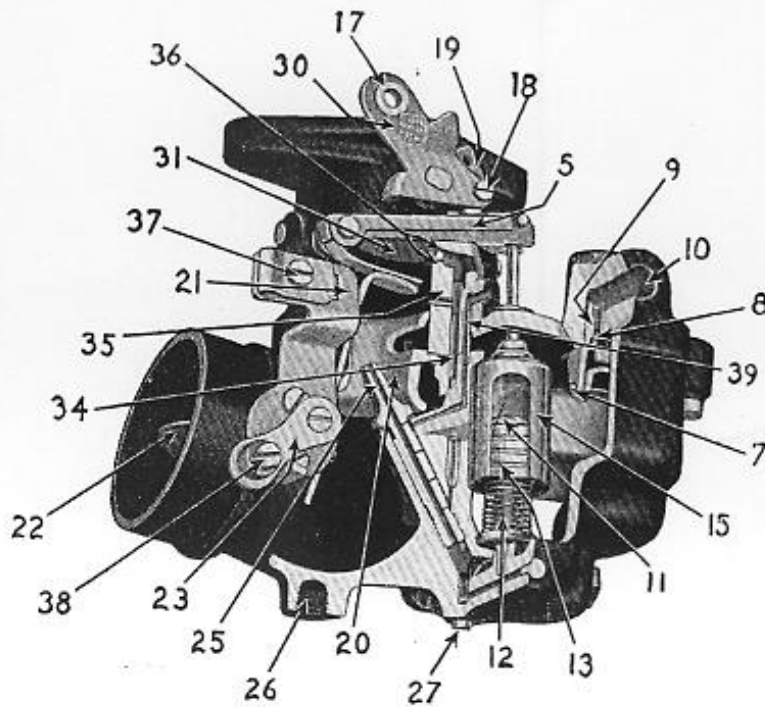

Fig. 1.
Operation of this carburetor is explained under Figures 1 to 4.
The economizer is a gasoline economizer and not an "air bled" economizer as used in previous model Stromberg carburetors. At part throttle, or speeds up to 45 or 50 miles per hour, all fuel is controlled by the main metering jet (16), (see Figures 1 and 2), which is usually of fixed size, although in some domestic specifications and in export service, an adjustable jet is used.
Figs. 1 to 4. Stromberg model "UR" carburetor.